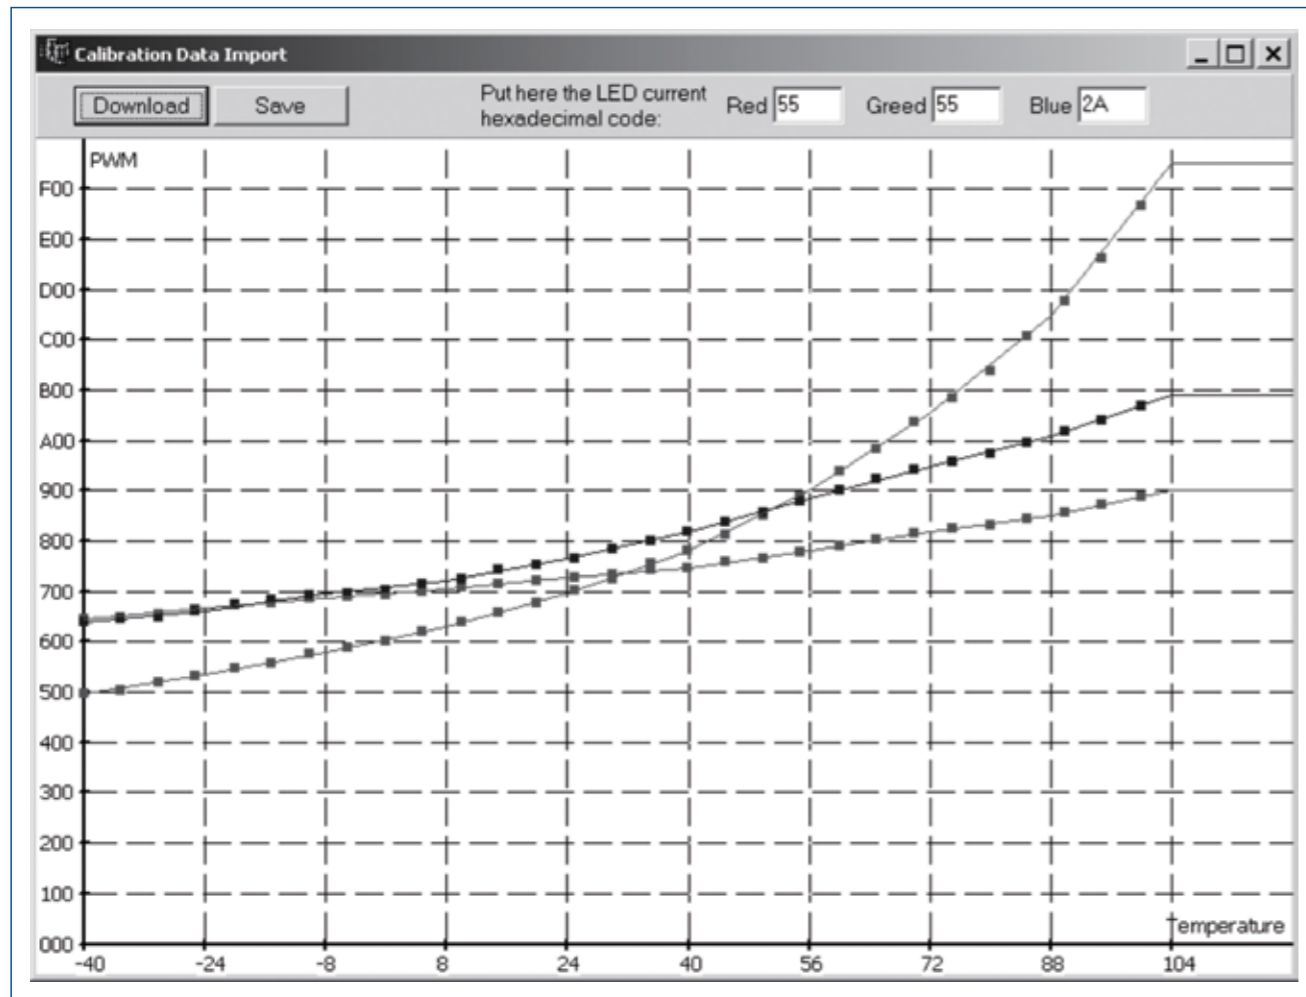

Figure 4: Correction and measurements of sample.
5) Based on the measured values, a curve is then plotted (Figure 4).